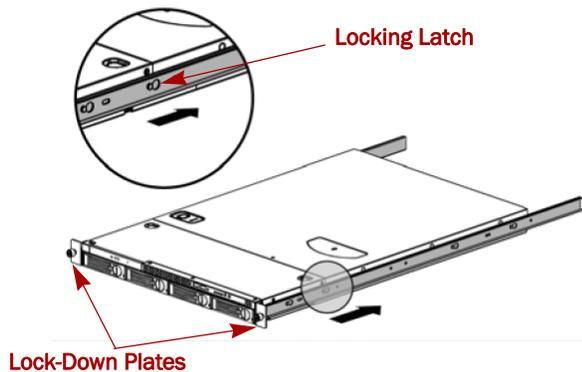

Figure 5. Attach Inner Member to REO 1500
3. Position the right inner rail against the appliance with the locking tabs going through the holes on the rail, and slide the rail toward the rear to lock the tabs (Figure 5).
1. Using the Handle Plate kit parts, attach the rack lock-down plates (“ears”) to both sides (Figure 5 on page 2) at the front of the REO 1500.